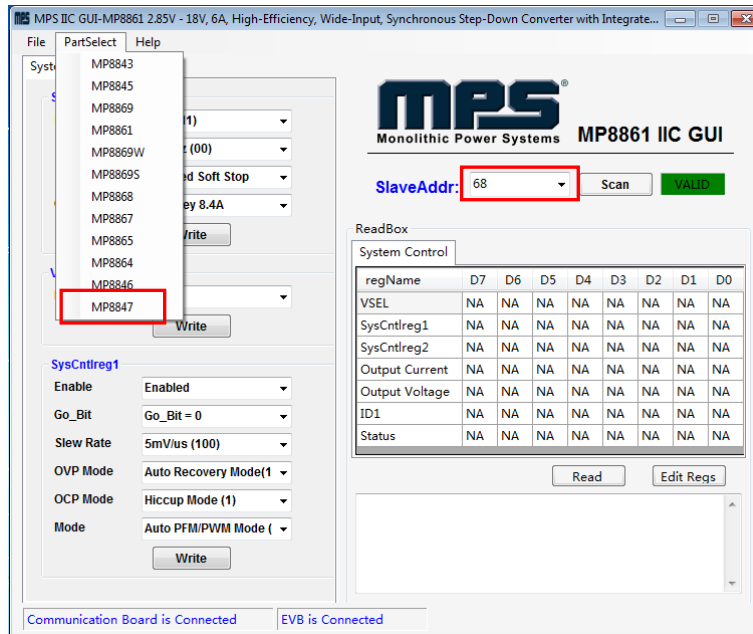
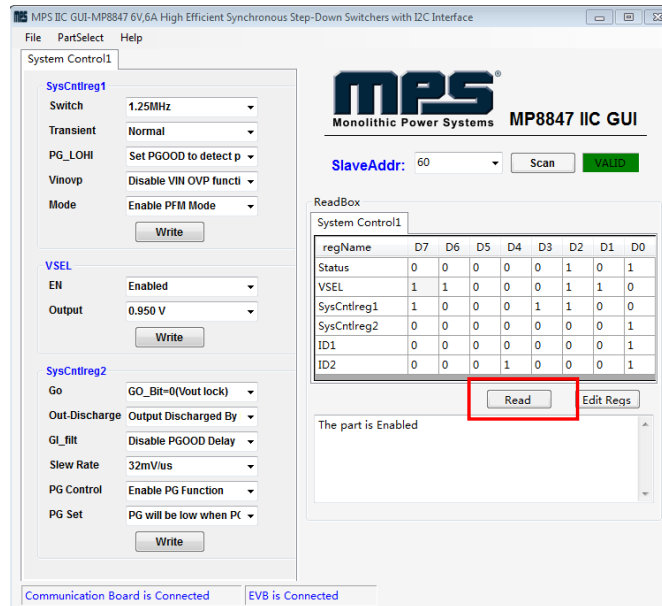

Figure 7: Appearance of Address Shows Successful Connection
Figure 9: Values from I²C Shown in Table
- If connection is successful, the address will be listed in the “Slave Address” (see Figure 7).
- Click the **PartSelect** button to select the MP8867 (see Figure 7) (The default GUI window is for the MP8861). The Register Control menu will appear on the left side. The I²C register values will be read and displayed on the right side after clicking the **Read** button (see Figure 9).